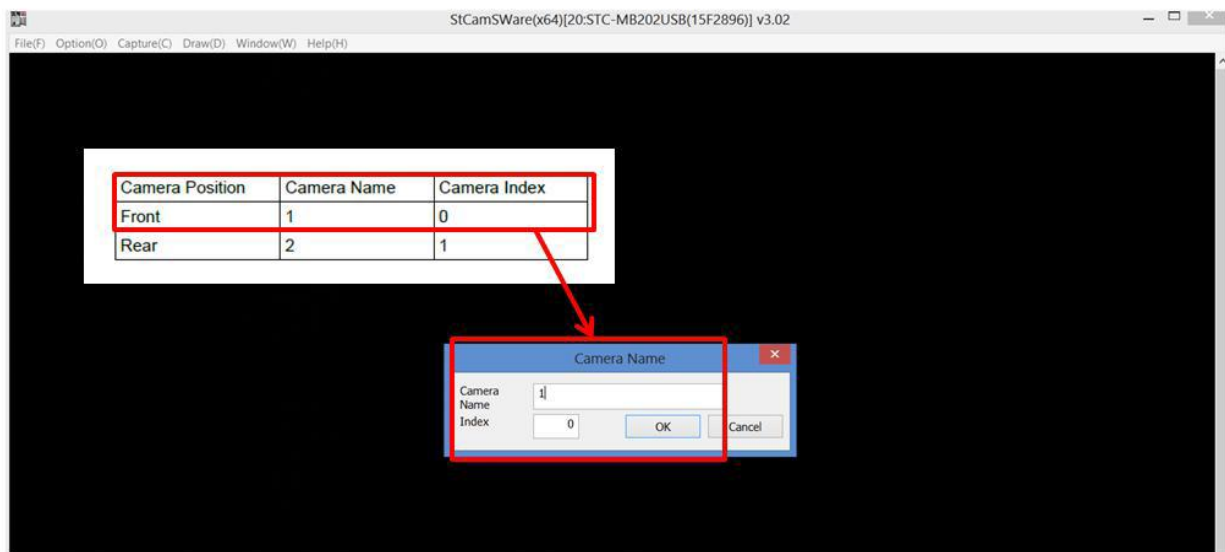

Figure 31 Camera Name Dialog box
29. Configure Front PSP 2 Camera Module by refer to below Figure 31 and Click "OK".